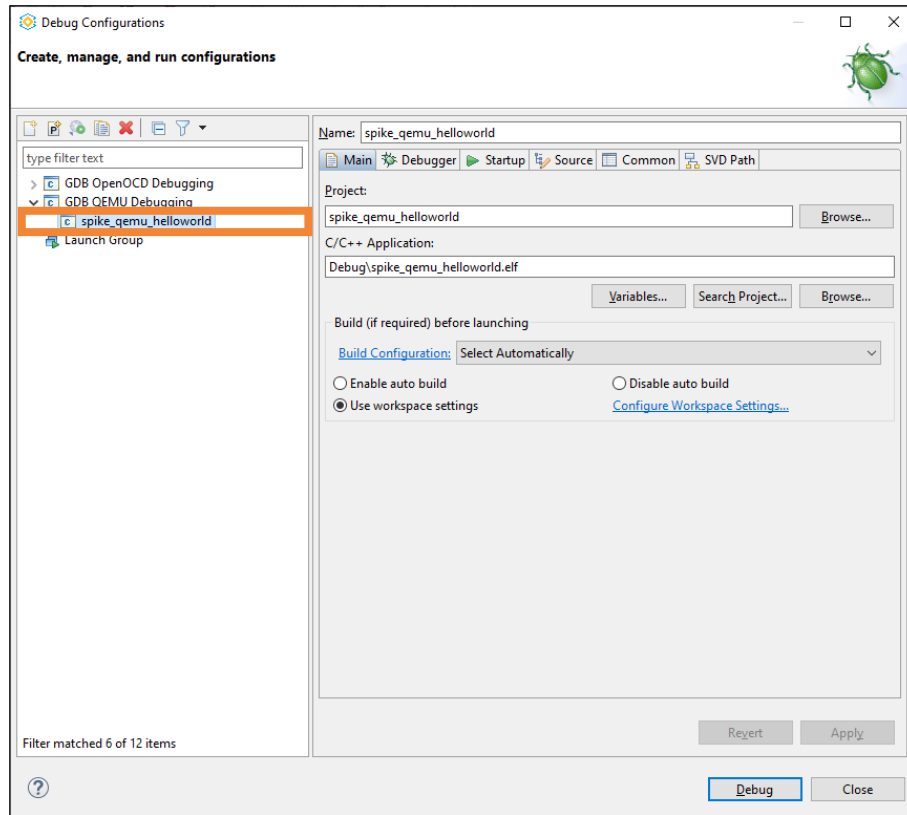

Figure 9.3. Debug Configurations Dialog 7
3. Choose spike_qemu_helloworld in **GDB QEMU Debugging** (Figure 9.3).